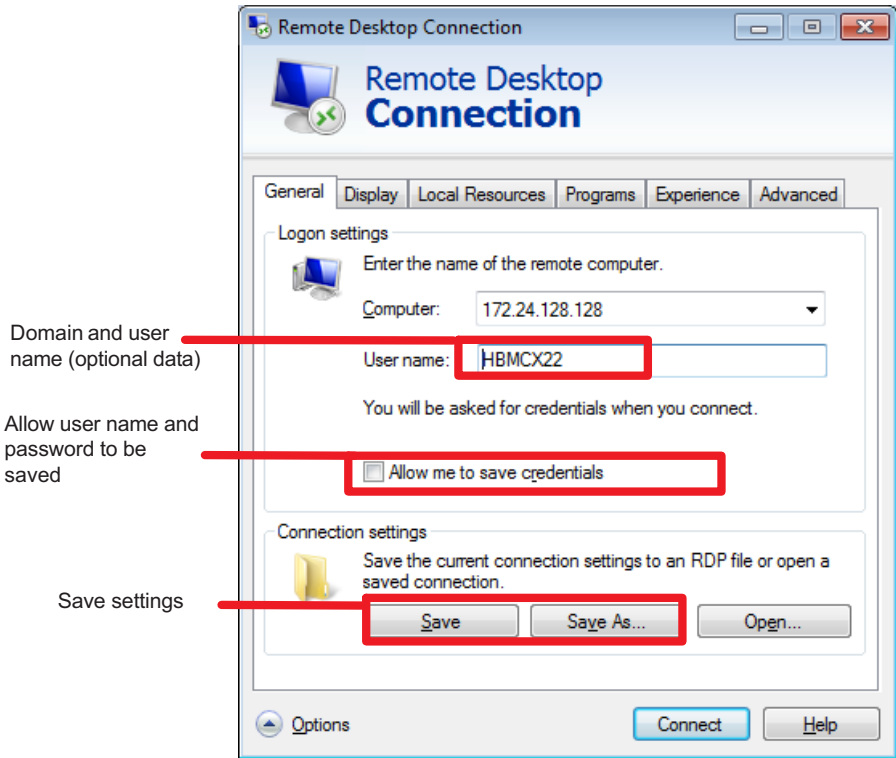

Fig. 6.8 Saving the remote desktop configuration
- ▶ Save the configuration via the **General** tab either under a new name (**Save as**) or as a default setting for the connection via *HBM Device Manager* (**Save**), see Fig. 6.8.
If you double-click this configuration file (or a link to it), a connection to the CX22B-W is immediately set up, and you only have to enter the password. If you authorize *Save credentials* (see Fig. 6.8), this is done automatically.